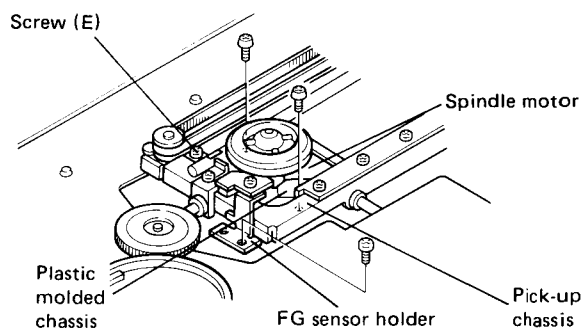

Fig. 15
8. Loosen the screw (E) which retains the slide shaft clamp from the center. (Fig. 15)